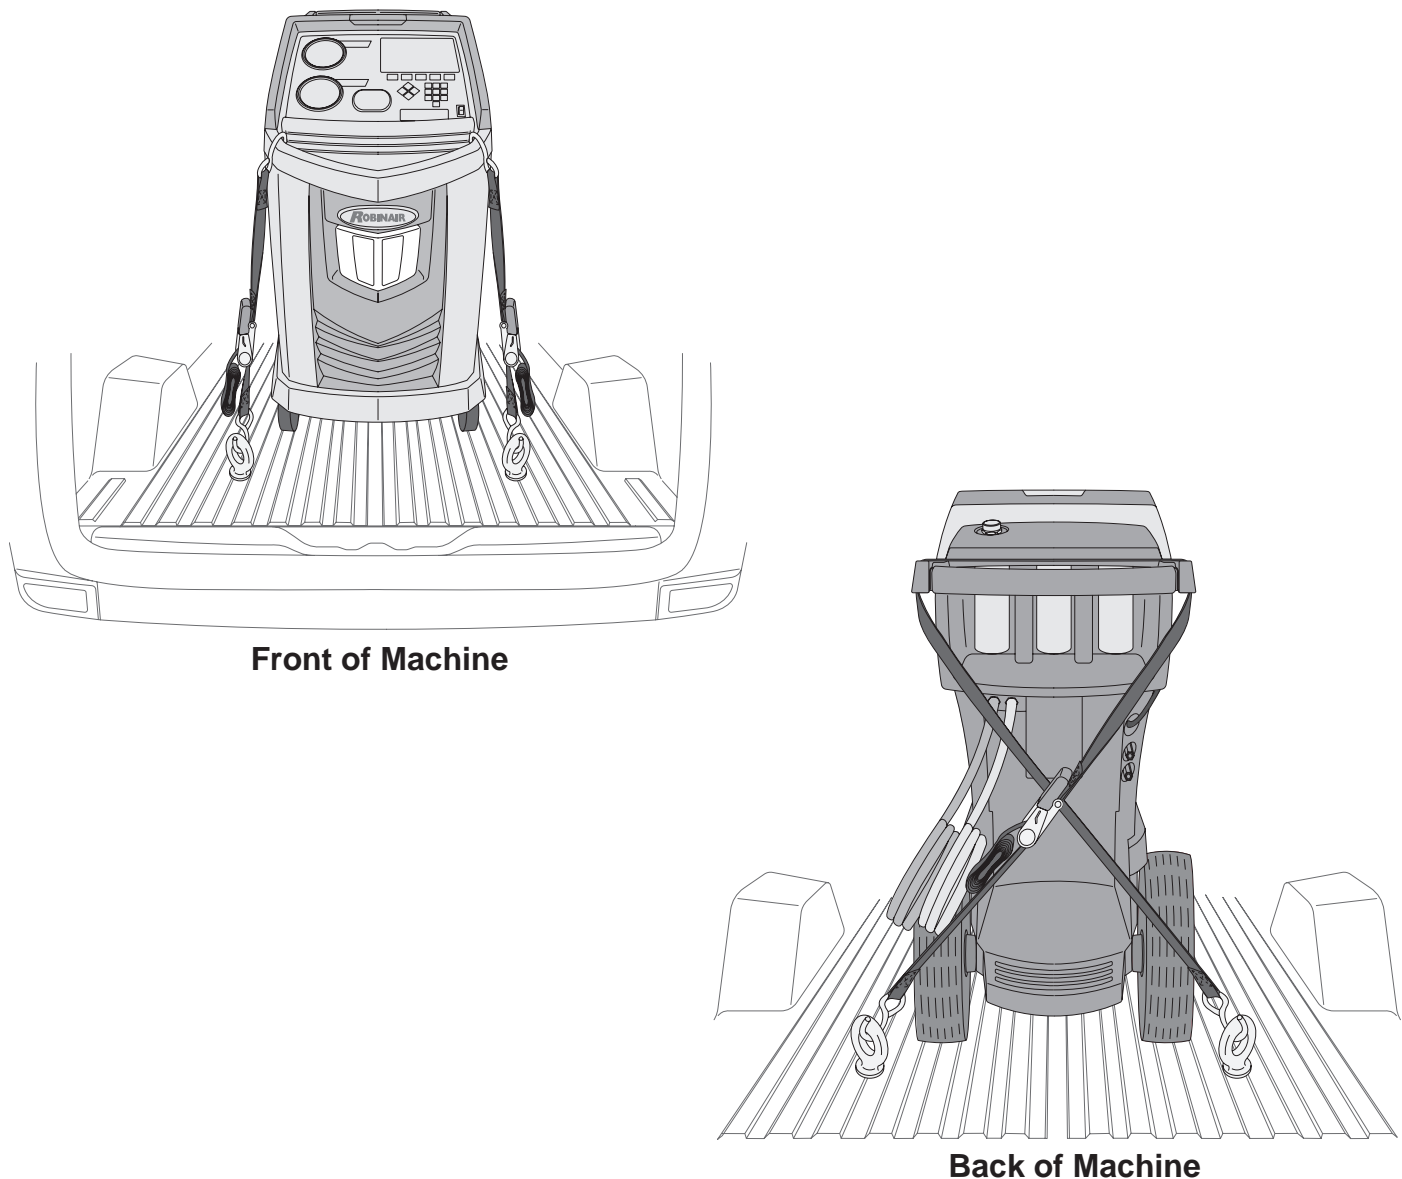

Figure 1
1. Use ratchet straps (not supplied) to hook to machine and fasten to the floor of the vehicle as shown in Figure 1.